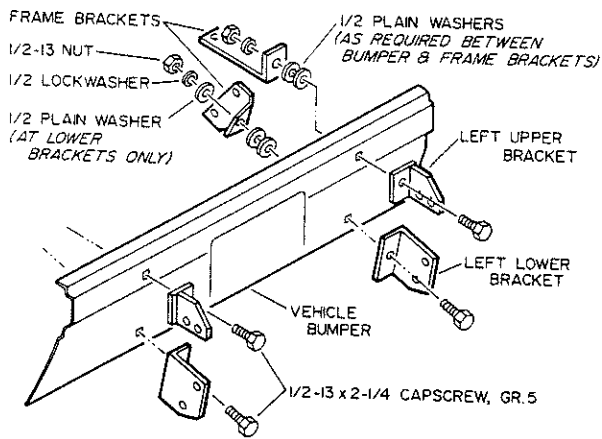

FIGURE 3
3. Install the upper and lower brackets as shown in **Figure 3**. Before inserting the capscrew, install washer spacers as required between the back side of the bumper and upper and lower frame brackets. A supply of sixteen plain washers is supplied for this purpose.